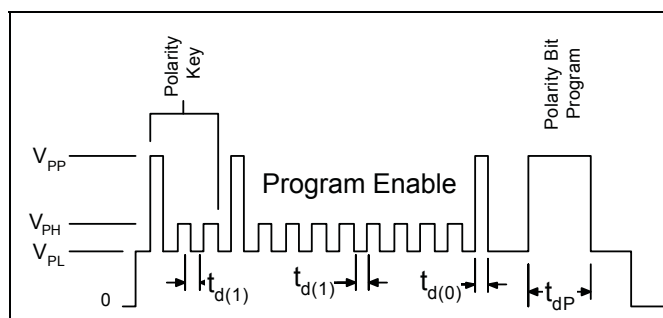

Figure 6. Polarity Bit Programming
**Polarity Bit Programming** If the desired switchpoint has negative polarity, the polarity bit must be programmed. To do this it is necessary to first apply the polarity key sequence before the program key sequence (figure 6). Finally a VPP pulse of duration tdP must be applied to program this bit, the programming is not reversible. The polarity bit is for adjusting programming range only and will not affect the output polarity. The proper output polarity device is determined by ordering the correct part number (ATS635 or ATS636), as they are different ICs.